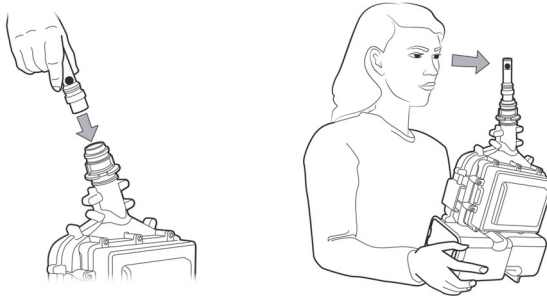

Fig. 7 - Checking Airflow
- Insert the Air Flow Indicator into the outlet of the Limited-Use Public Health Emergency PAPR blower unit. If the breathing tube is in place, it must be removed to allow the Air Flow Indicator to be inserted (Fig. 7).